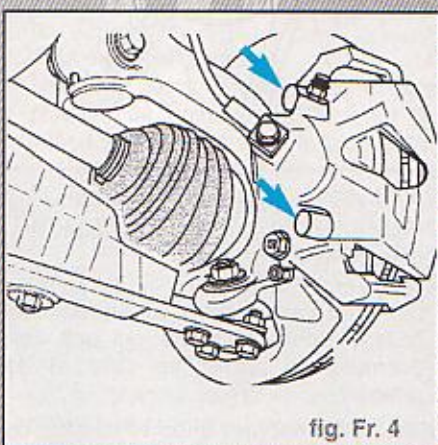

fig. Fr. 4
- Retirer les capuchons (flèches) (Fig. Fr. 4).